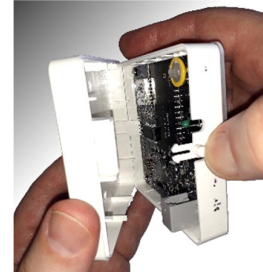

Fig 8
- Step 1** Press release button on side of Controller case and pull the back case away (see Fig 8).